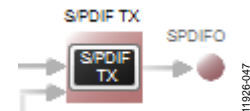

Figure 45. Confirming that the DSP Core Outputs are Routed to the S/PDIF Transmitter
- d. Confirm that the setting has taken effect by verifying that the color of the **S/PDIF TX** box has changed from gray to black (see Figure 45). (If the color of the box has changed to black, the DSP core has been routed to the S/PDIF transmitter and the S/PDIF receiver signal has been routed to ASRC 0; therefore, the output of ASRC 0 can be used in the DSP program.)